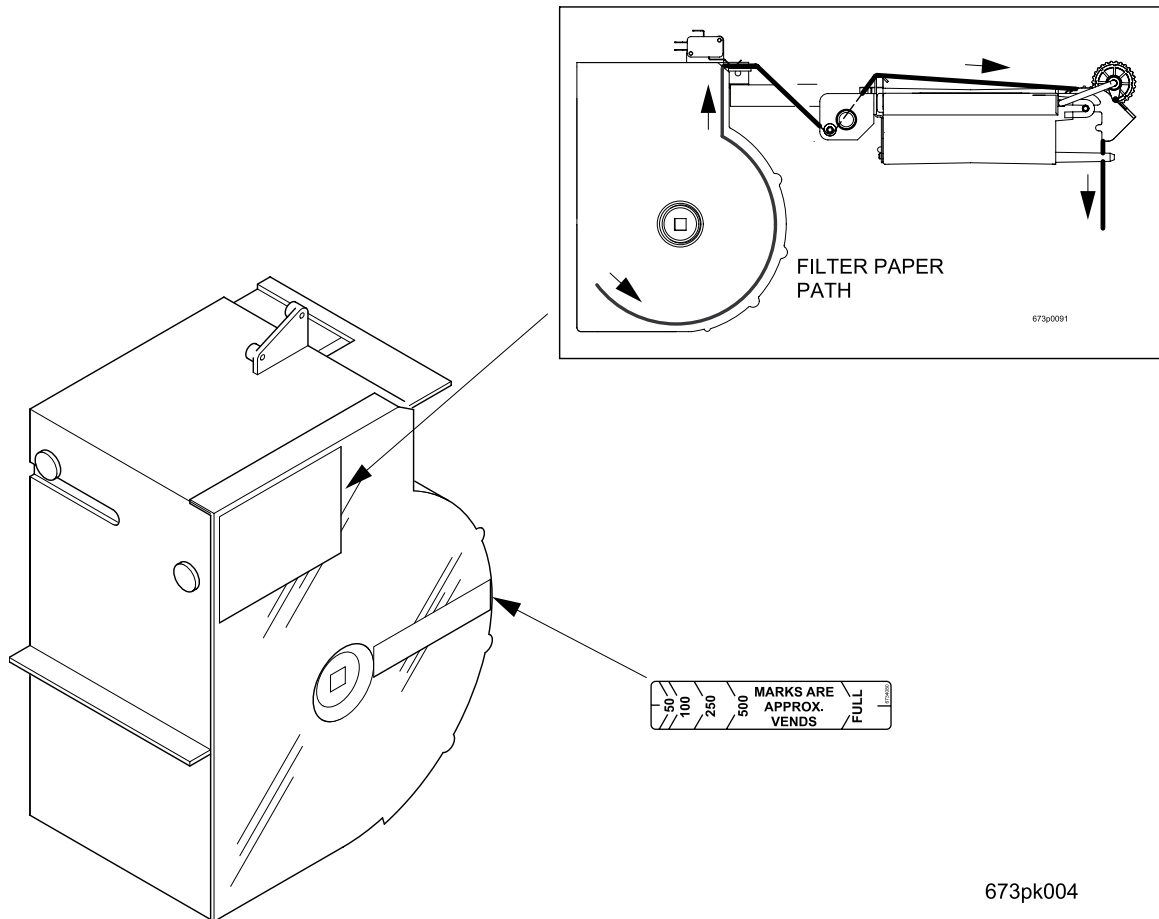

Figure 16
16. Remove the paper housing cover and install labels as shown in Figure 16, then replace paper housing cover.